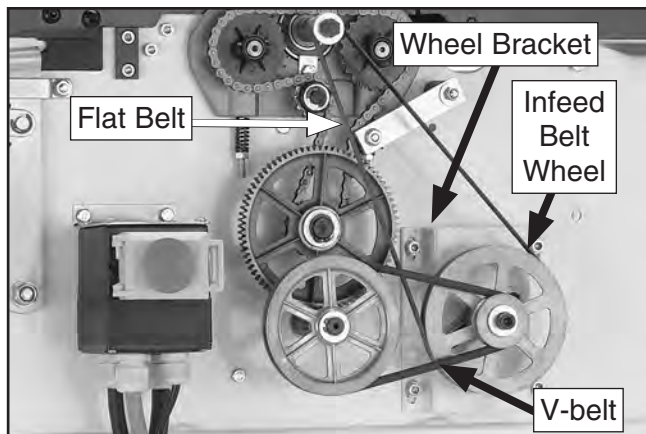

Figure 48. Cap screw locations.
3. Loosen the four cap screws on the wheel bracket, and one cap screw on the infeed belt wheel (see **Figure 48**), then raise the infeed belt wheel.
5. Push the wheel bracket (see **Figure 48**) down and tighten the four cap screws, then push the infeed belt wheel down and tighten the cap screw loosened in **Step 3**.